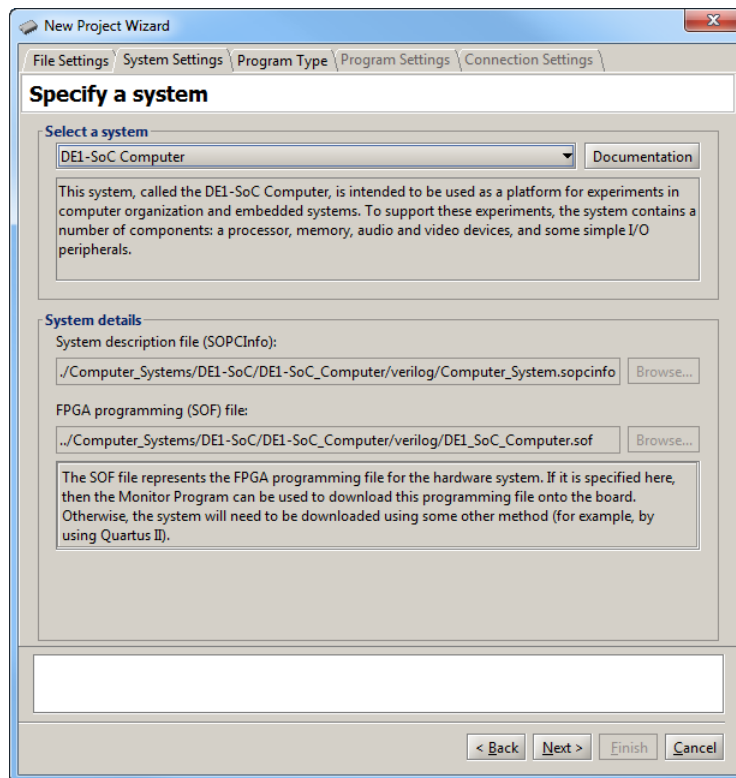

Figure 6. Specifying the desired hardware system.
2. Click **Next** to advance to the window shown in Figure 6, which is used to specify a particular system. A hardware system to be implemented on the FPGA board is usually generated by using Quartus's Qsys tool. Information about creating systems using Qsys can be found in the *Introduction to the Intel Qsys System Integration Tool* tutorial, which is available in the University Program section of Intel's website.
In the top right corner of Figure 6 there is a **Documentation** button. Clicking on this button opens a user guide that provides all information needed for developing Nios II programs for the DE1-SoC Computer, such as the memory map for addressing all of the I/O devices in the system. This file can also be accessed at a later time by using the command **Settings > System Settings** and then clicking on the **Documentation** button.